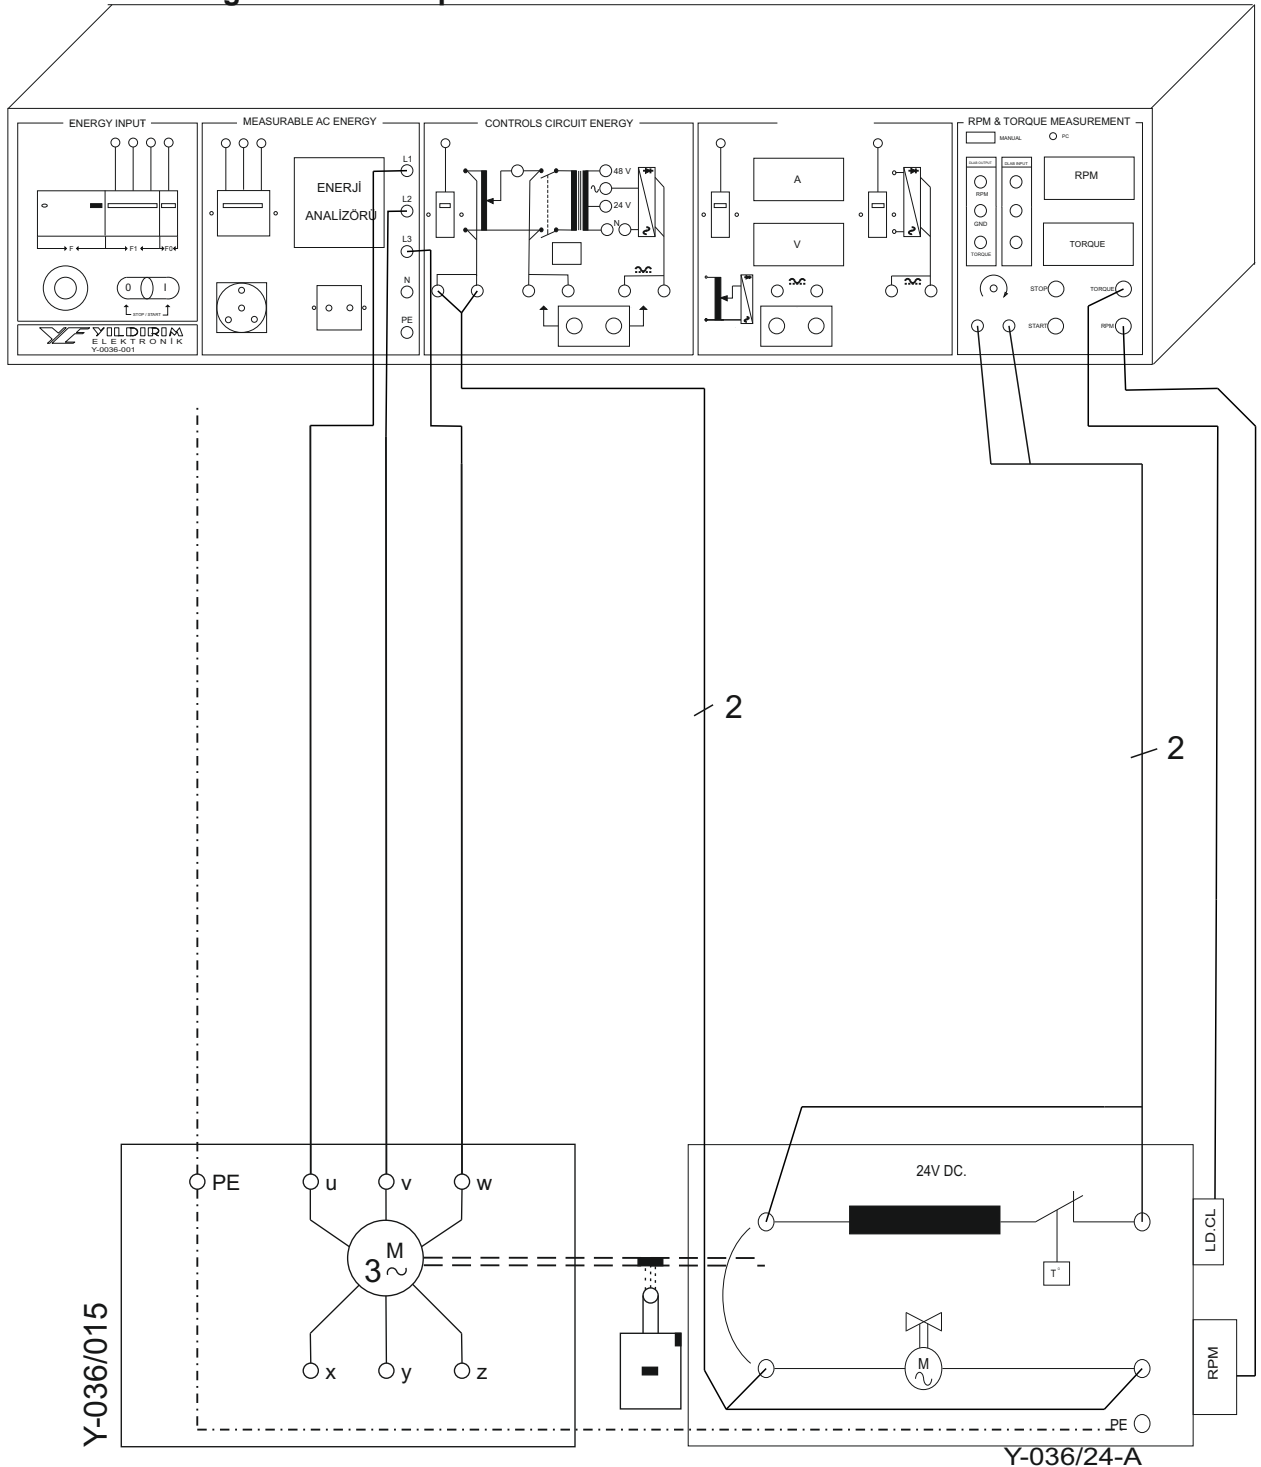

Figure 31.1: Connection diagram for finding the slip of the tri-phase asynchronous motor.
- Connect the circuit shown in the Figure 31.1,31.2
- Increase the DC voltage of the magnetic powder brake starting from (0) volt step by step. At the same time apply 220V AC to its fan motor (L-N).